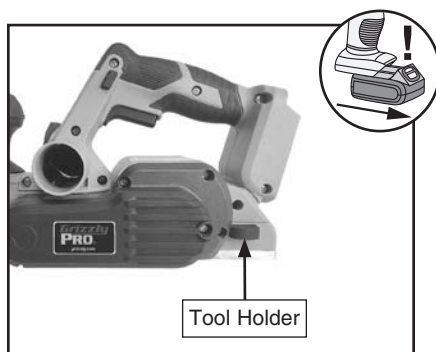

Figure 24. Tool holder location.
2. Remove tool holder to access 8mm wrench and 2.5mm hex wrench (see **Figure 24**).